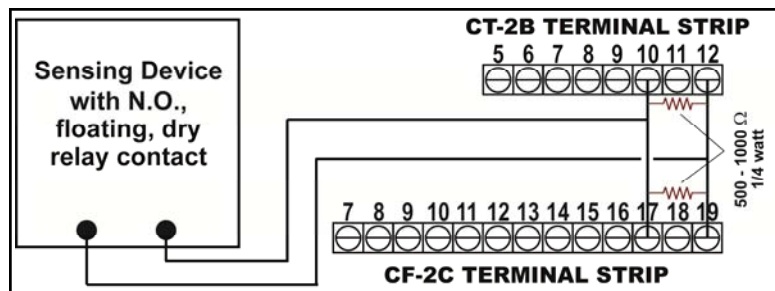

Figure 1
1. Install the Cartell control unit as outlined in the manual that came with your system. See Figure 1.